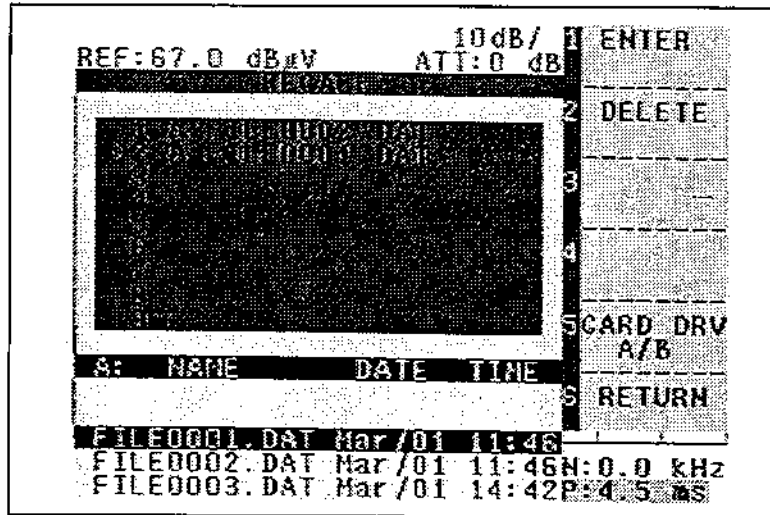

Figure 5-29 RECALL DEFINE menu screen
- ① Press   and the screen shown in Figure 5-29 will appear.
- ② Specify a register number with the   step keys and a file of memory card with the knob , and then press  to setup the file in the register number.
- ③ Press , ten key (any one setup register number from 1 to 9) in order and the assigned file setting conditions will be recalled.